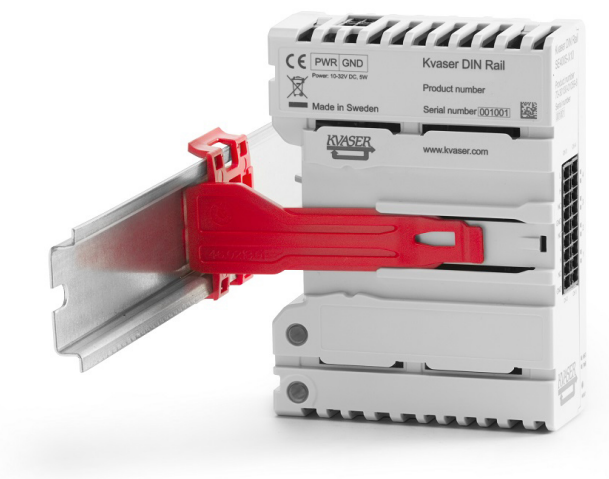
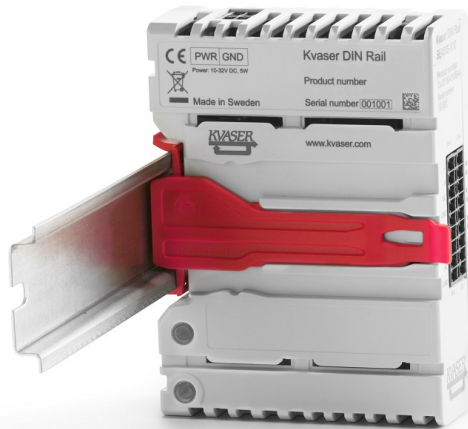

Figure 3: Inserting module into clip mounted on a DIN Rail.
Figure 4: Module securely mounted on a DIN Rail.
2. Mount the Kvaser DIN Rail SE400S-X10 module by inserting the module so that the mounting clip fits into the guiding rail of the module. Apply slight pressure of the module against the DIN Rail so that the module locks into place, see Figure 3 on Page 9 and Figure 4 on Page 10.